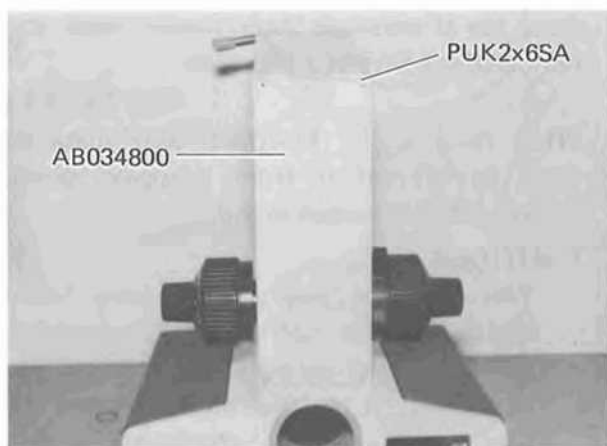

Fig. 3-5
- 3-3-1 Detach Rear Cover AB034800 by removing four Screws PUK2x6SA. (See Fig. 3-5.)